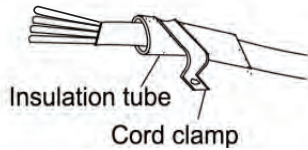

Fig.20
(3). How to fix connection cord and power cord by cord clamp After passing the connection cord fasten it with the cord clamp.(Fig.20)